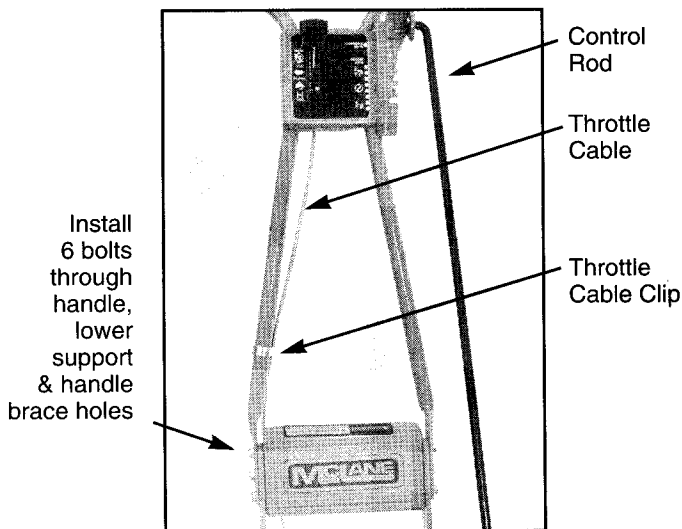

Fig. 1
1. Remove handle brace, nuts, and bolts. Align the handle, lower support, and handle brace holes. Use all six nuts and bolts. Leave bolts loose until Steps 2 and 3 are completed. (Fig. 1).
2. Install control rod into upper and lower pivot holes and secure with cotter pins (Fig. 1). Oil pivots lightly before installing rod.